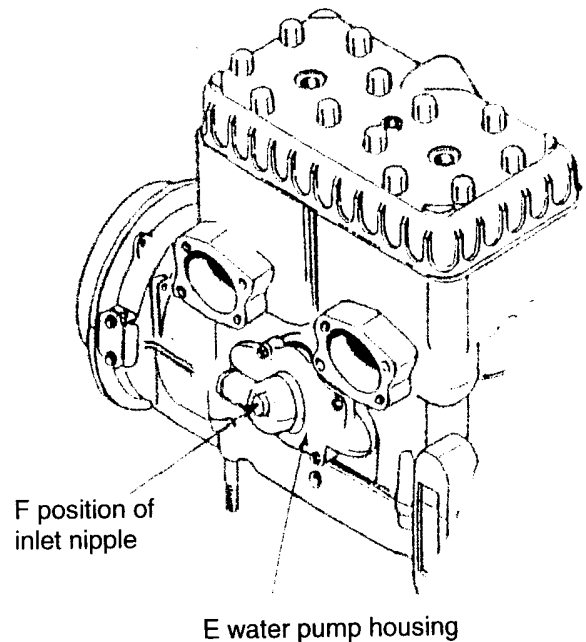

Figure 5: Position of water pump inlet nipple.
Referring to Figure 5, remove lower hose from water pump housing (E) and remove the housing from the engine, making a note which way it is fitted, so it can be reassembled correctly. Drill through the centre of the housing at F, using the 5mm drill supplied (Note - some housings have a plug screwed into the centre at F, some do not. If a plug is fitted, drill straight through the middle of the plug. If a plug is not fitted, drill through the aluminium housing, but only to a depth of 15mm, to prevent the drill being pulled off line by the web inside the water pump. Carefully tap an M6 thread through the drilled hole using the tap provided, and using a suitable tap wrench to turn the tap. Ensure that the tap is perfectly square with the housing during this process, and lubricate the tap with a little oil or grease. Once the thread has been tapped, remove all traces of grease from the thread, and fit the brass nipple with a small aluminium or copper washer underneath it, and a small amount of high strength retainer on the thread. Tighten the nipple to 4.ONm (2.9lbs.ft). Over-tightening may shear the nipple off or strip the thread.